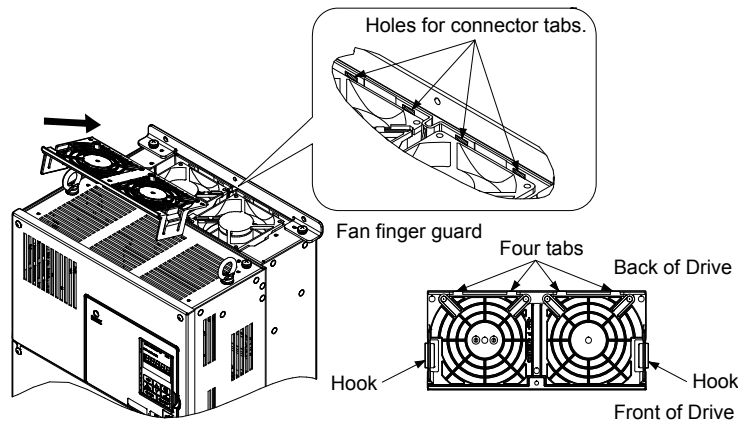

Figure 31 Reattach the Fan Finger Guard: 4T0088□ and 4T0103□
3. Angle the fan finger guard as shown in **Figure 31** and insert the connector tabs into the corresponding holes on the drive.